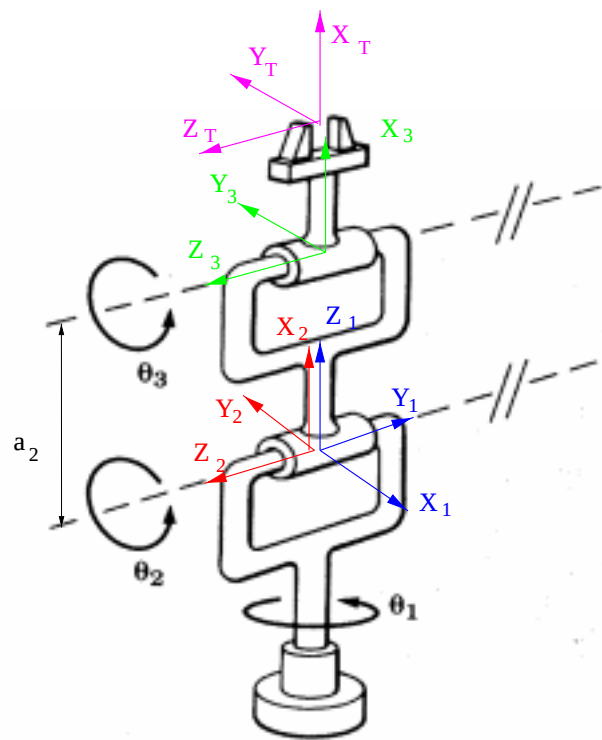

Figure 2. Frames for Problem 4.
4. (a) Figure 2 shows the manipulator with the link frame assignments determined in Homework 2, with a tool frame added at the end effector. The relationship between the tool frame and frame 3 is a pure displacement in the x direction, *i.e.*,